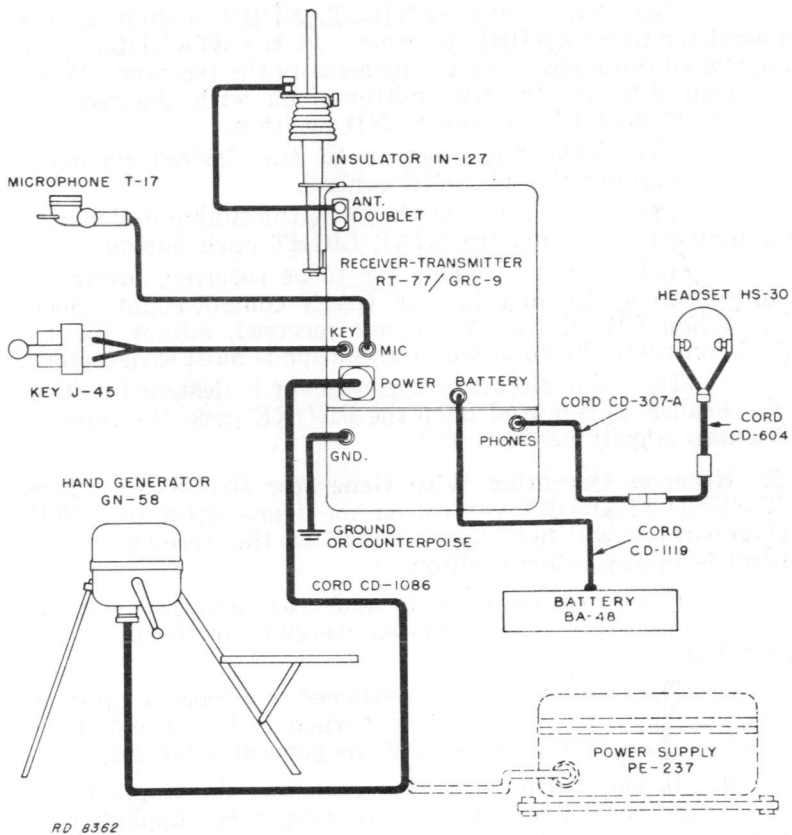

Figure 31.—Radio Set AN/GRC-9, cording diagram.
31. Connections for Operation.—The cording diagram, Figure 31, illustrates the connections necessary to place the equipment in operation. The illustration shows all types of power supplies available. It should be remembered that the use of both the hand generator and the external dry battery at the same time is not necessary for operation of the radio set, although the use of both items will reduce the work of the generator operator. If the vibrator power unit is being used, neither the hand generator nor the external battery is needed.